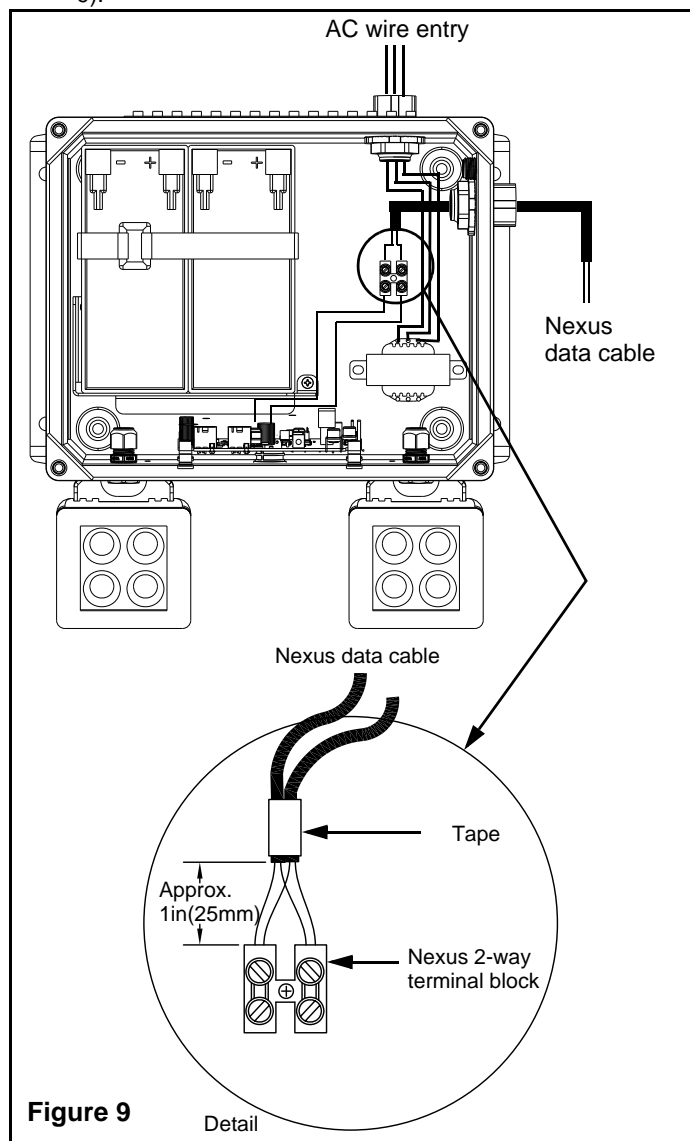

Figure 9
- b. NEXUS wired (-NEX): remove the bushing located on the side of the unit and install the conduit fitting rated for Class 1 Div2 (provided) into the open hole. Thread the Nexus data cable conduit tightly into the conduit fitting ensuring a water-tight seal. If necessary, seal with silicone or equivalent caulking (not provided) to prevent water leaking into the cabinet. Route the Nexus data cables into the unit through the conduit and hub and strip 1in(25mm) of the double insulation (see detail in figure 9). The two cables are identical and both contain 2 wires of different colors: color A and color B. Gather the color A wire from each cable, and connect them to the same pole on the terminal block. Gather the color B wire from each cable, and connect them to the other pole on the terminal block. The result must be 2 wires of the same color in each pole on the terminal block (see details in figure 9).